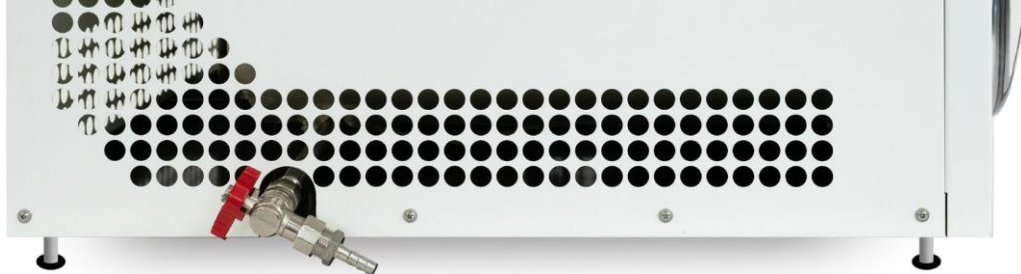

Figure 7
- The connector for the drain hose is located to the left side of the freeze dryer (Figure 7).